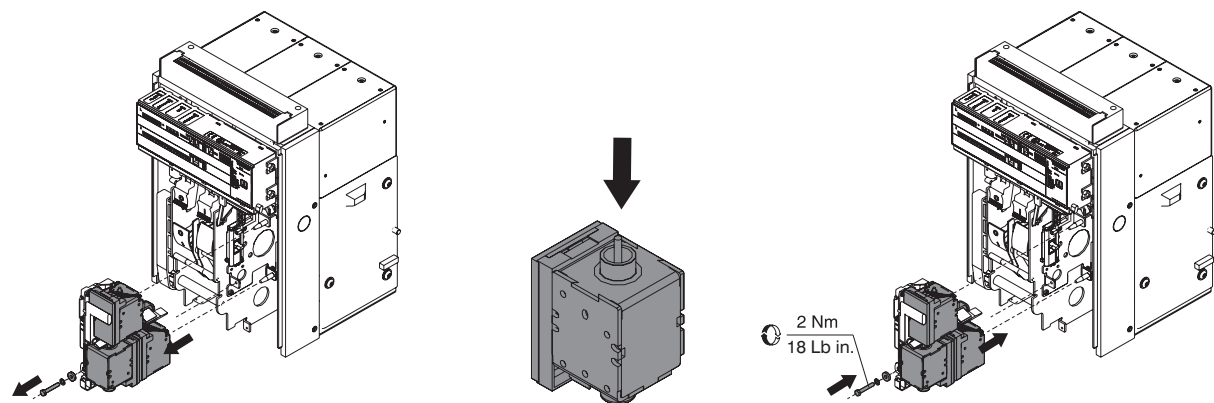

Fig. 39
- Make sure that the releases (SOR-UVR-SRC) are in good conditions (absence of excessive wear, overheating, breakages) Fig. 39.